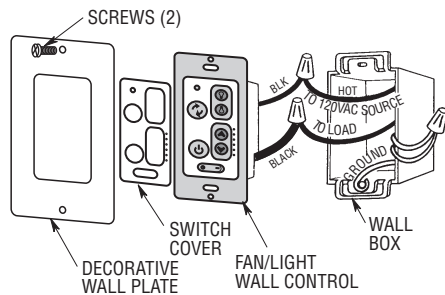

Figure 7
- 4. Connect one black wire of wall control to the “hot” wire. Securely connect wires with wire connectors supplied (Figure 7).
- 7. The wall control is supplied with a white, ivory, and almond color switch covers. Choose the finish that best suits your needs and snap the cover onto the wall control (Figure 7).
- 8. Install decorator wall plate (purchased separately) using the two screws provided with wall plate. Leave wall control in “OFF” mode until fan installation is completed (Figure 7).